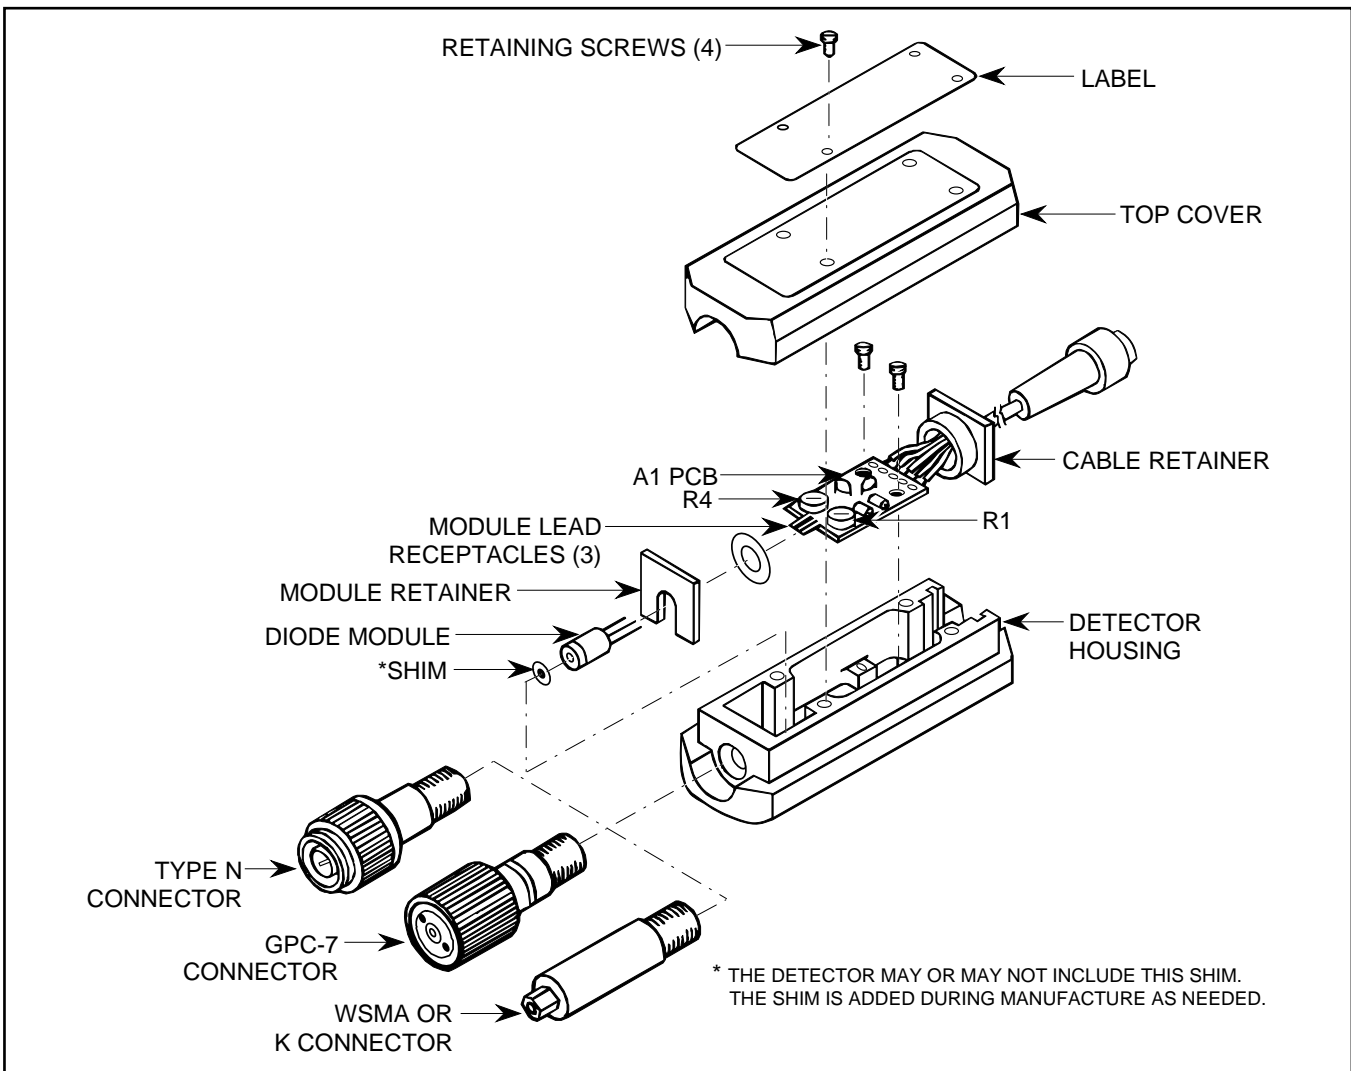

Figure 9. Series 560-7XXX RF Detectors, Exploded View
2. Unfasten the two retaining screws that hold down the RF detector PCB subassembly (Figure 9).
12. Orient the detector housing normally (Figure 9, page 6). Insert the replacement diode module into the rear of the connector body so that the center lead *is on top*.
15. Orient the PCB subassembly normally as shown in Figure 9 and insert it into the detector housing so that the leads from the replacement diode module mate with the connectors on the PCB subassembly.